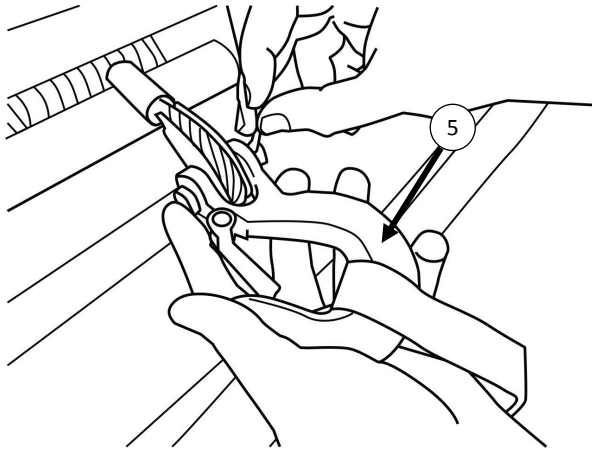

Figure 61: Attach hook to rope
- Pass synthetic rope through Hawse Fairlead (Item 3) and install Winch Hook and Pin (Item 5) as shown in Figure 61.